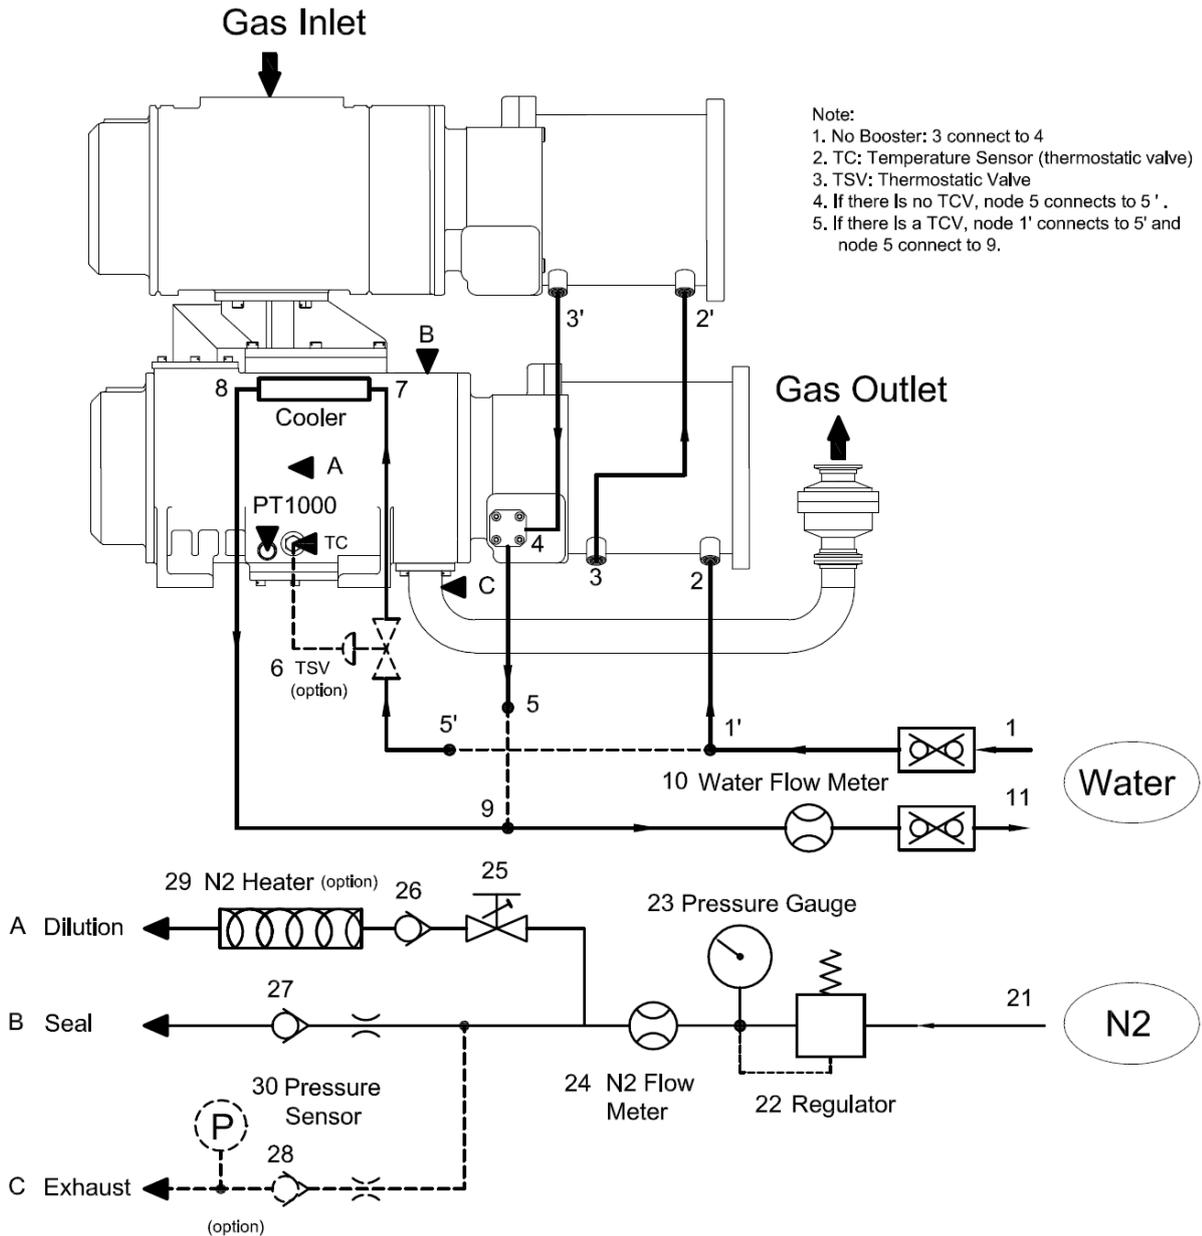

Figure 1.2 Pump Cooling Water and N₂ System
1.2 Cooling Water System (See Fig.1.2)
From Fig. 1.2, the cooling water system has two kinds of cooling methods in two paths:
1.3 N2 Gas System (See Fig.1.2)
From Fig. 1.2, the pressurized N2 gas comes into the pump via the inlet 21. Adjust the regulation pressure to the specified value, and supply the correct amount of N2 gas to the pump. The recommended value is shown in Table 3.2. The controller could read and monitor the flow value by the N2 flow meter. The N2 piping could be divided into three sets of pipe lines: